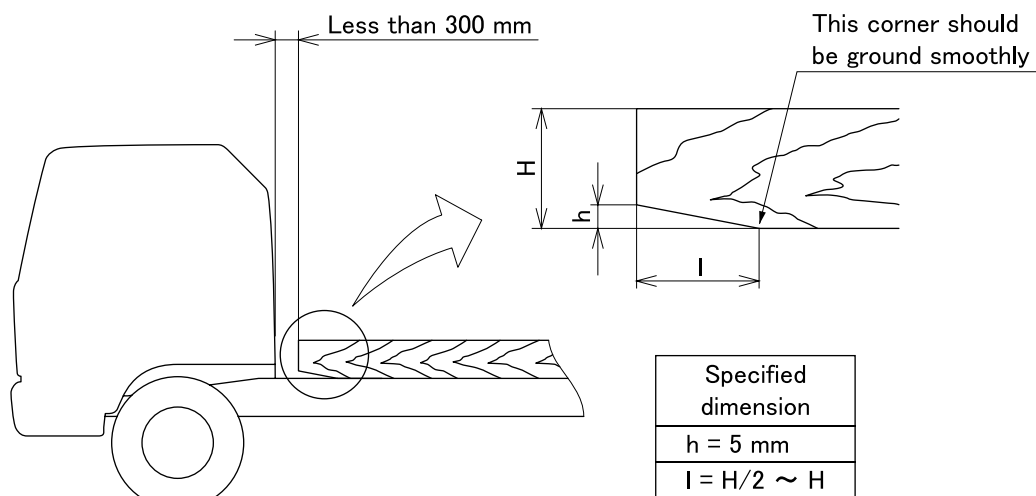

Fig. 5
- When using a wooden block as a mounting frame, shape its front end as shown in Fig. 5 so that no stress concentration may occur between the front end of the mounting frame and the chassis frame.